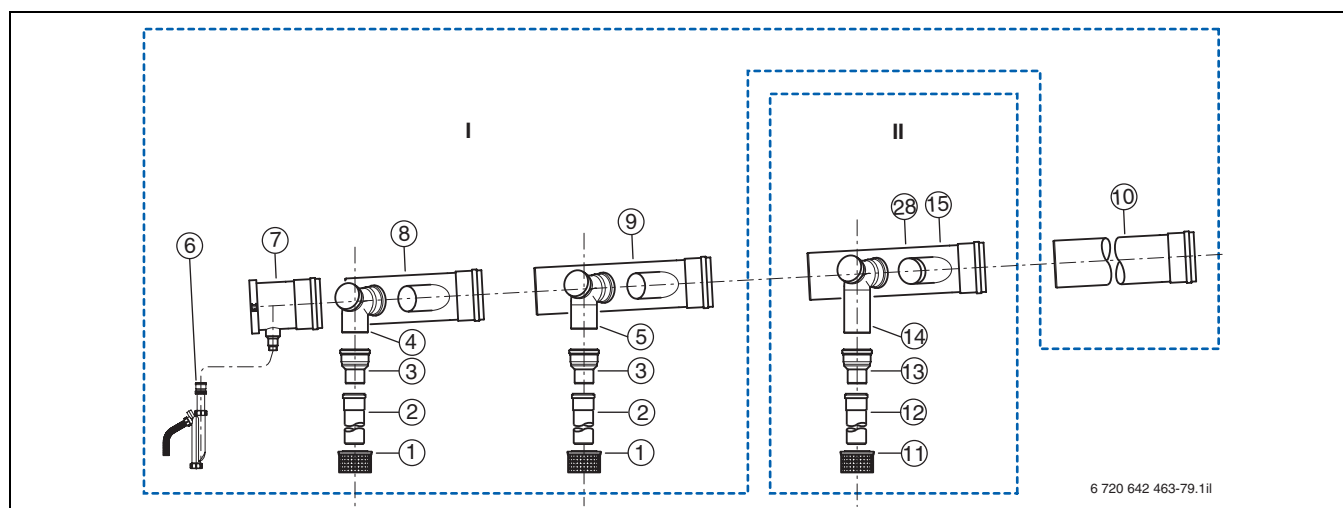

Fig. 116 Connection piece and components of the standard flue cascade set plus the plastic flue cascade extension set
**Standard set:** → fig. 116, pos. 1 to 10
**Extension set:** → fig. 116, pos. 11 to 28